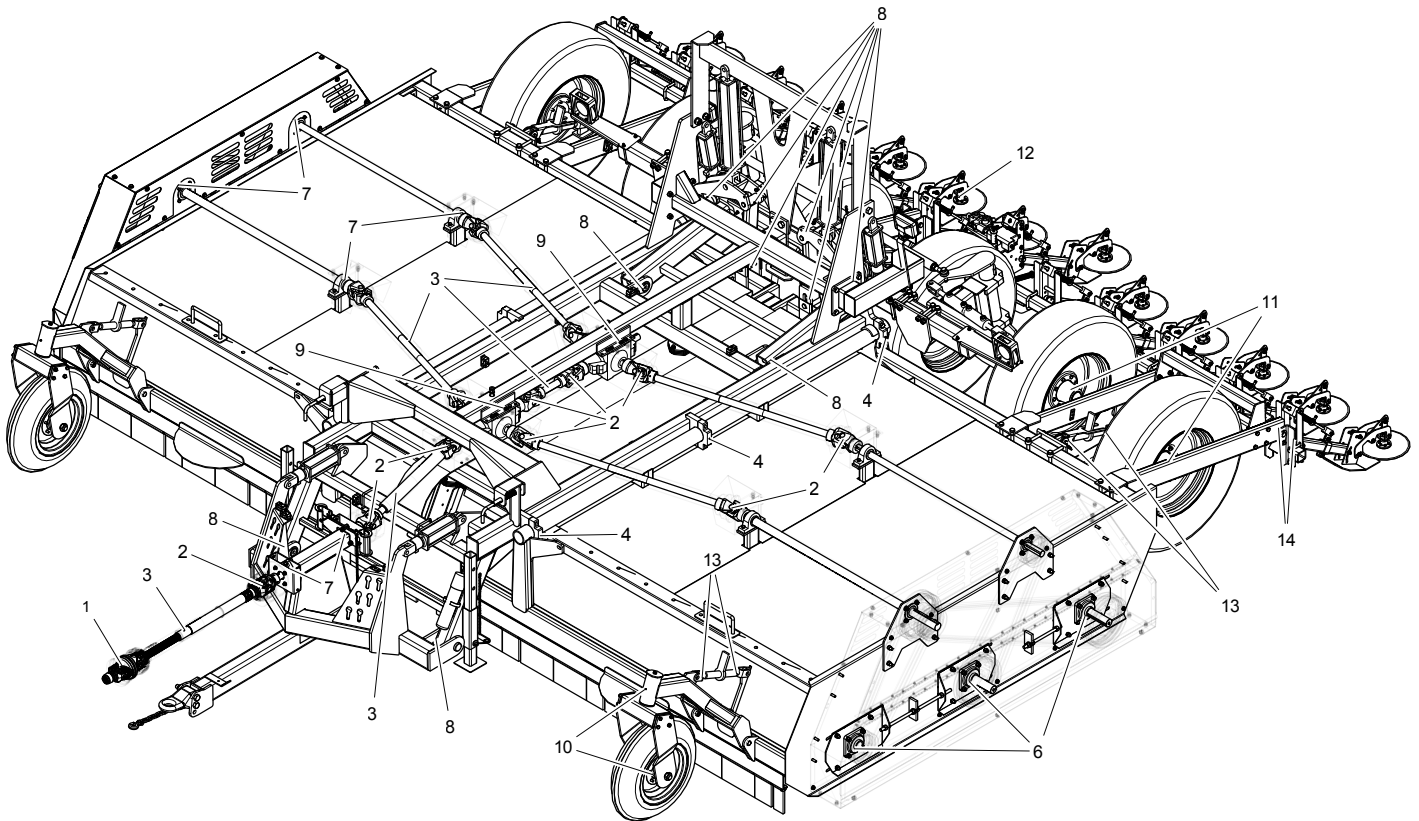

Figure 30. Lubrication Points
13. Grease gauge wheel jack screws (Figure 30, 32).